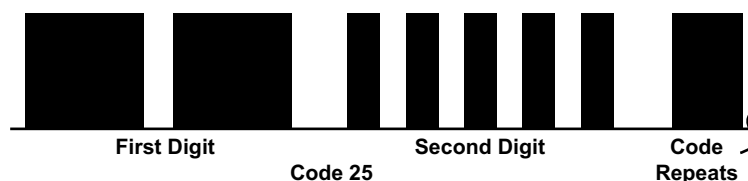

Figure 4-12 Acura engine Code Type 03
- Type 03, see Figure 4-12 and Table 4-4